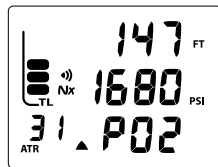

Fig. 86 - HIGH PO2 MAIN
- > The graphic PO2 will replace the time displayed on the lower/right (DTR) and the UP Arrow will appear solid on the MAIN Display (Fig. 86) as a warning.